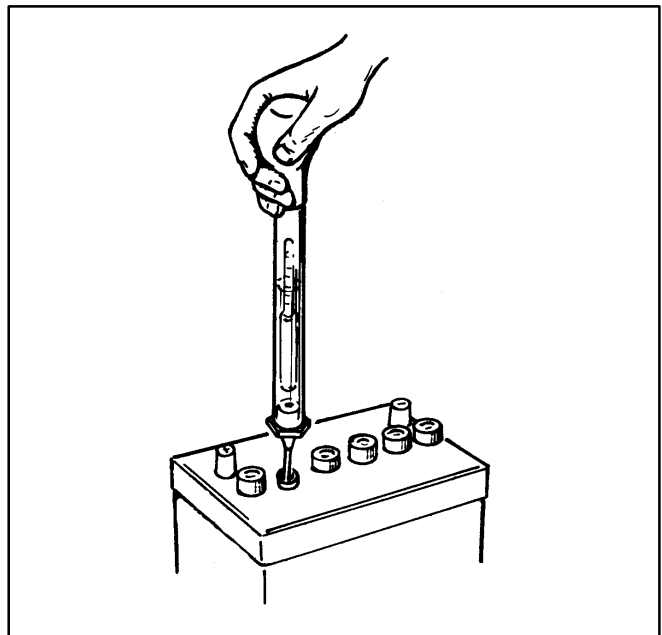

FIGURE 12. BATTERY CHECK WITH HYDROMETER
6. Use a battery hydrometer to check the specific gravity of the electrolyte in each battery cell (Figure 12). Charge the battery if the specific gravity measures less than 1.215. Do not overcharge the battery. Stop charging the battery when the electrolyte specific gravity reaches 1.260, at approximately 80° F (27° C).
Refer to Table 4 for scheduled spark plug replacement. (The genset has two spark plugs, Figure 12.) The spark plugs must be in good condition for proper engine starting and performance. A spark plug that fouls frequently or has heavy soot deposits indicates the need for engine service. See *Troubleshooting*.